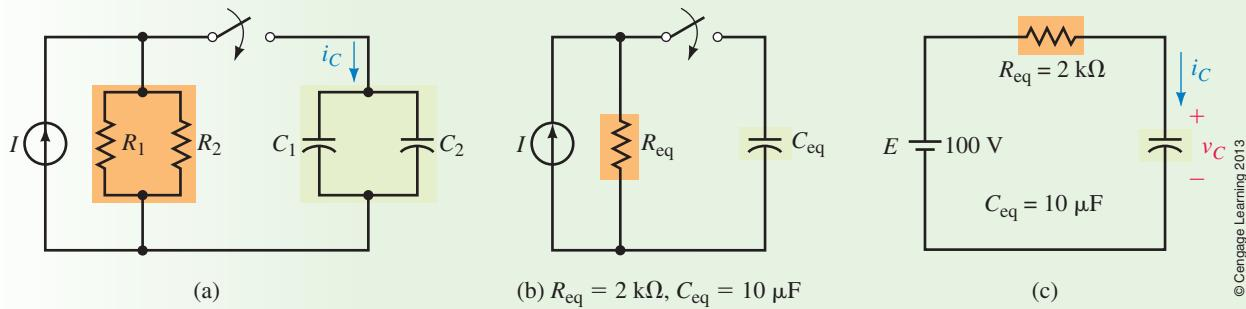

FIGURE 11–20 $I = 50 \text{ mA}$, $R_1 = 3 \text{ k}\Omega$, $R_2 = 6 \text{ k}\Omega$, $C_1 = 8 \mu\text{F}$, $C_2 = 2 \mu\text{F}$.
The charge and discharge equations and the universal time constant curves apply only to circuits of the forms shown in Figures 11–2 and 11–18. Fortunately, many circuits can be reduced to these forms using standard circuit reduction techniques such as series and parallel combinations, source conversions, Thévenin's theorem, and so on. Once a circuit has been reduced to its series equivalent, you can use any of the techniques that we have developed so far.
For the circuit of Figure 11–20(a), determine expressions for v_C and i_C . Capacitors are initially uncharged.
The capacitor of Figure 11–21 is initially uncharged. Close the switch at $t = 0 \text{ s}$.
- For Figure 11–21, if $R_1 = 400 \Omega$, $R_2 = 1200 \Omega$, $R_3 = 300 \Omega$, $R_4 = 50 \Omega$, $C = 20 \mu\text{F}$, and $E = 200 \text{ V}$, determine equations for v_C and i_C .
- Using the values shown in Figure 11–21, determine equations for v_C and i_C if the capacitor has an initial voltage of 60 V.